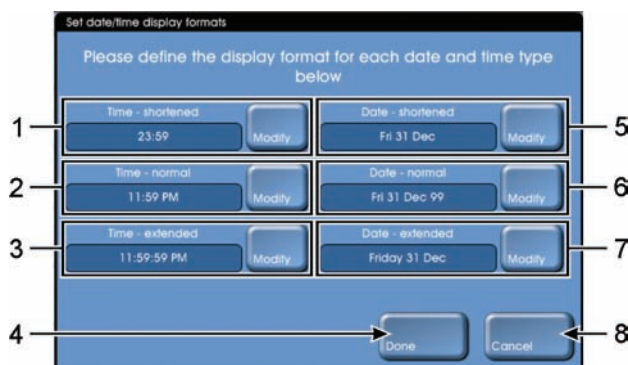

Figure 121: Display format screen
2. From the display format screen, select the **Modify** button associated with the time or date format you wish to alter (see Figure 121).
4. Use the display format screen to modify other formats are required then select the **OK** button to confirm the change (see item 4 in Figure 121).
Select the **Cancel** button if you do not wish to retain the changes (see item 8 in Figure 121).